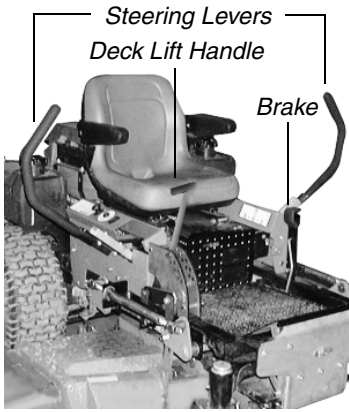

Figure. 3
3. **Left and Right Steering Levers:** (See Figure 3.) These hinged levers open out to the side in the neutral position to permit the operator to be seated or to leave the mower's seat. The operator, when seated, can pull the levers up to the operating position, a comfortable forearm's length away. These levers control all of the movements of the mower. Pushing both levers forward causes the mower to move forward. Pulling both levers back causes the mower to move backward. Pushing one lever ahead of the other lever causes the traction wheel on the side where the lever is ahead to rotate faster than the other traction wheel, making the mower turn toward the side where the lever is behind. When one lever is pushed forward and the other lever pulled back the same amount, one traction wheel will turn in reverse and the mower will turn within its own length.
5. **Parking Brake:** (See Figure 3.) Located on the left side of the traction unit. The handle is an overcenter lever which applies the drum-type brake on each drive wheel when the handle is pulled to the rear. The brake must be engaged in order to start the engine.
6. **Deck Lift Handle and Foot Pedal Lift Assist:** (See Figure 3.) Located on the right front corner of the mowing deck. Raise the mowing deck to the transport position, by pulling the lever to the rear and moving it inward into the stop for transport. To lower the mowing deck, pull the deck lift handle and move it outward. This lowers the deck to the cutting position. The foot pedal lift assist (not pictured above) can provide “lift assist” to the hand lever or with “foot effort only”. To provide assistance to the lift handle: remove the detent pin from the pedal assembly. Fold the pedal down to the horizontal position so the hole in the pedal aligns with the hole in the lever. Re-install the detent pin. Pull on the Lift handle and depress the foot pedal to raise the deck. Lifting with “foot effort only” depress the foot pedal (the hand lever will lock into transport position if fully depressed). To release the lift mechanism depress the foot pedal, move the hand lever outward and slowly reduce foot pedal effort to lower the mechanism. To service the unit: Remove the detent pin from the pedal assembly. Fold the pedal up to vertical position so the hole in the pedal aligns with